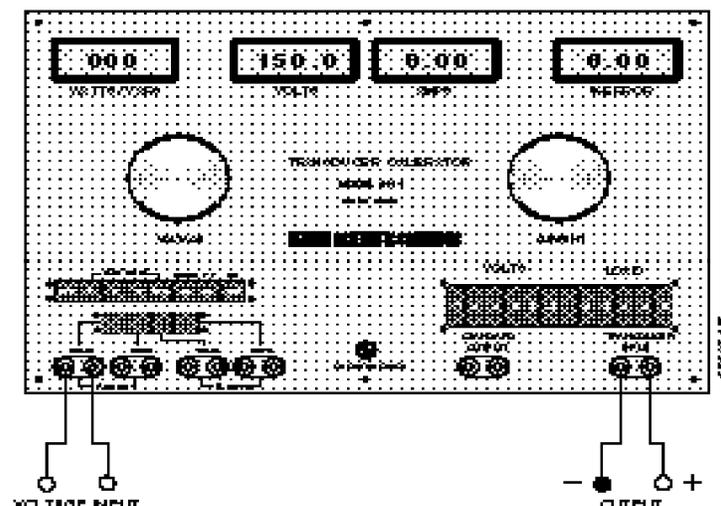

Figure 3-1
2. Connect the voltage transducer to the Model 6444 Transducer Calibrator. See Figure 3-1.